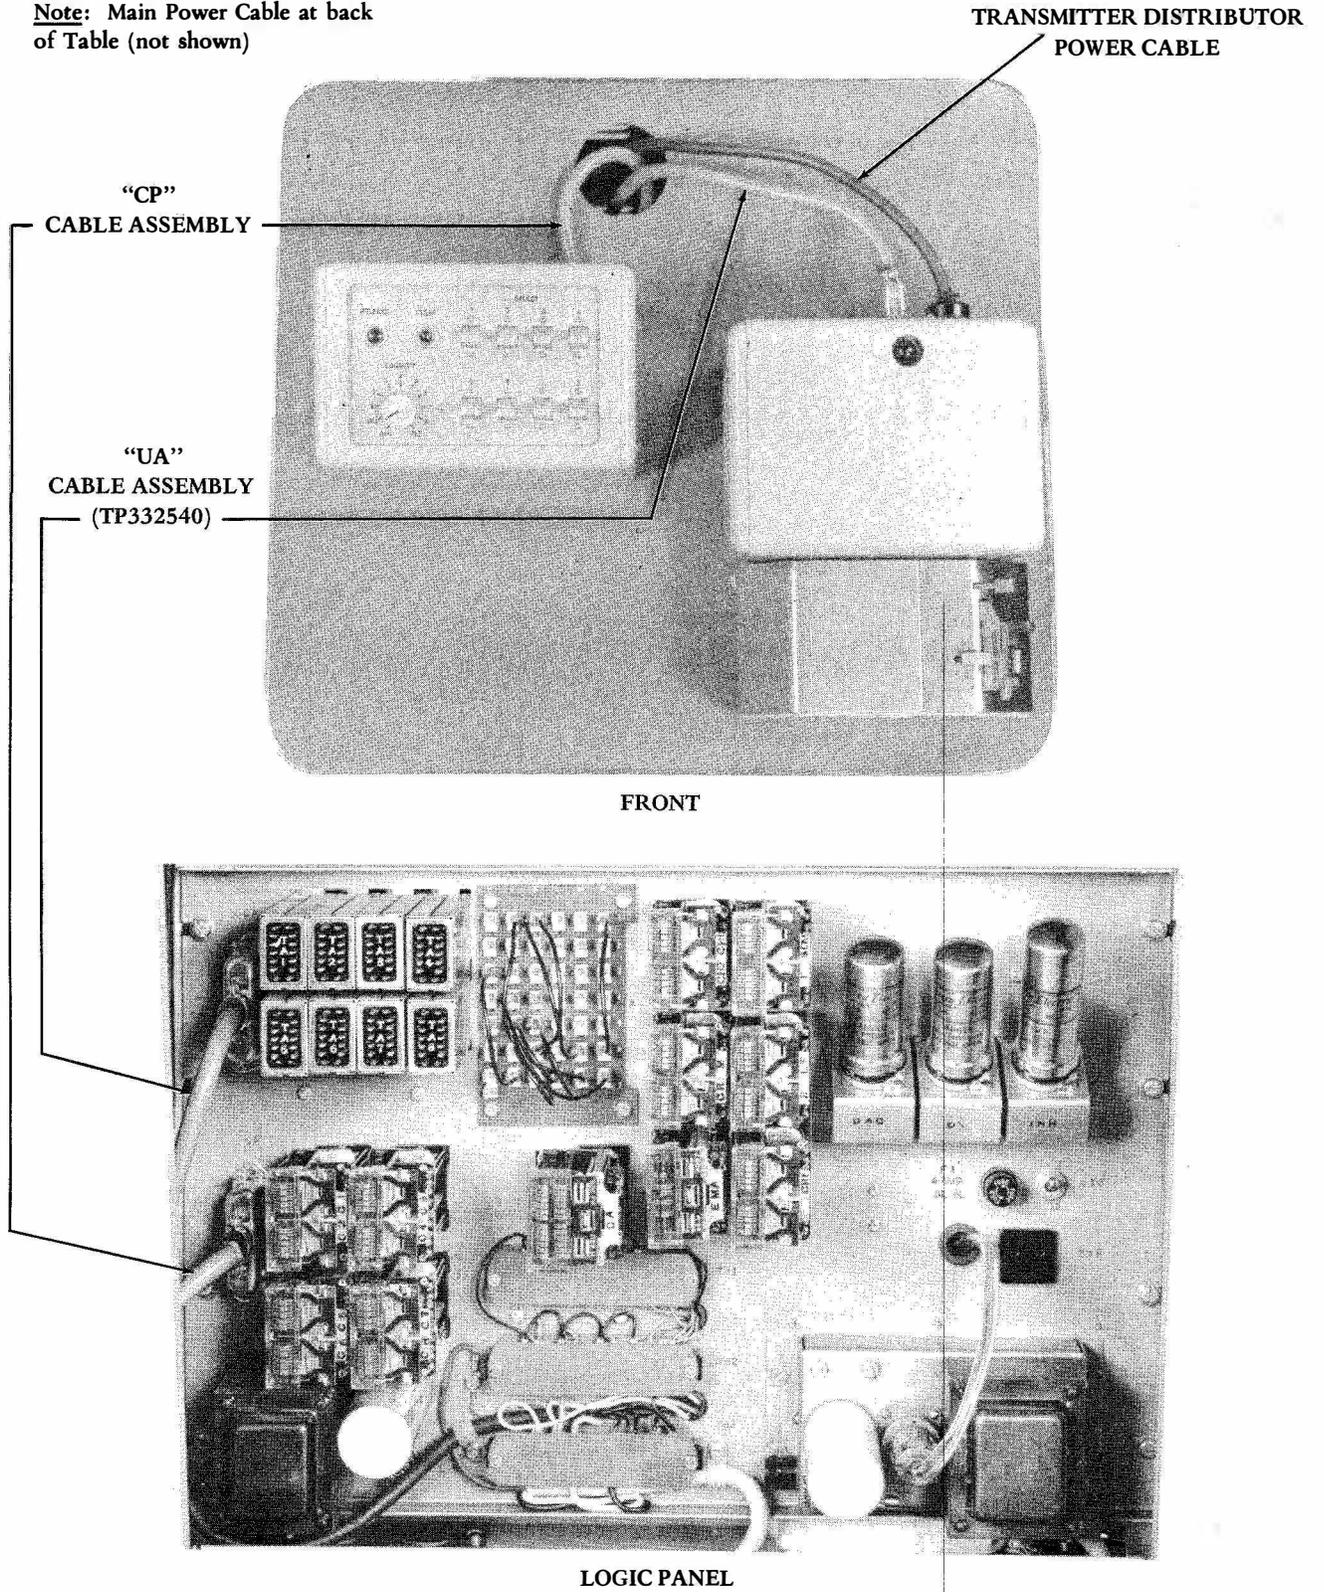

Figure 3 - Top of Segregator and Front View of Logic Panel
- 2.02 To place the segregator in service connect the three cables (shown in Figure 3) and the main power cable, located at the lower rear of the table.
- 2.04 Feed the "UA" connector end of the TP332540 Cable Assembly thru the hole in the top of the table to the mating "UA" connector on the logic panel (Figure 3).
- 2.05 Feed the "CP" cable from the switching control assembly thru the table top hole to the mating connector in the logic panel (Figure 3).